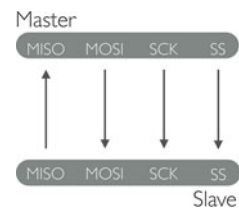

Figure 8.9 SPI communication channels
There's also a fourth slave select (SS) pin on each peripheral that you can use to select which device you wish to talk to. Setting the SS pin LOW tells the device to communicate with the master, while setting it HIGH tells it to ignore the master. By using the SS pin, you can have multiple devices utilizing the same three communication lines, and you can switch between devices one at a time by setting their pins LOW and HIGH respectively. A visual overview of the SPI communication channels is provided in figure 8.9.